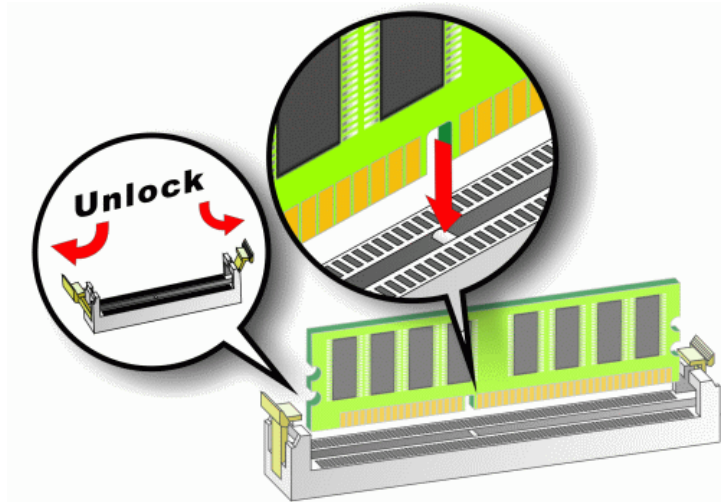

Figure 5-7: Installing a DIMM
To install a DIMM into a DIMM socket, please follow the steps below and refer to **Figure 5-7**.
- Step 1:** **Open the DIMM socket handles.** The DIMM socket has two handles that secure the DIMM into the socket. Before the DIMM can be inserted into the socket, the handles must be opened. See **Figure 5-7**.
- Step 2:** **Align the DIMM with the socket.** The DIMM must be oriented in such a way that the notch in the middle of the DIMM must be aligned with the plastic bridge in the socket. See **Figure 5-7**.
Step 3: Insert the DIMM. Once properly aligned, the DIMM can be inserted into the socket. As the DIMM is inserted, the white handles on the side of the socket will close automatically and secure the DIMM to the socket. See **Figure 5-7**.